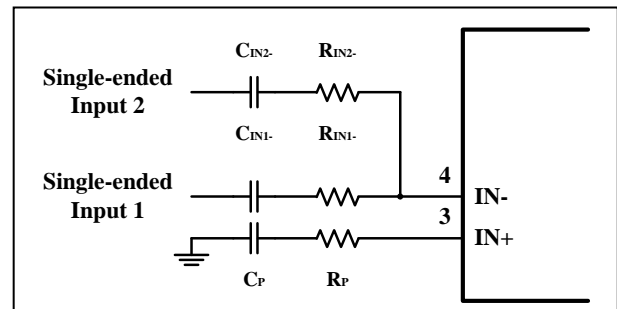

Figure 16 Application Circuit with Summing Two Single-Ended Inputs
The corner frequencies (f_{C1} and f_{C2}) for each input source can be set independently by Equations (9) and (10). Resistor, R_P , and capacitor, C_P , are needed on the $IN+$ terminal to match the impedance on the $IN-$ terminal (Figure 16). The gain for each input source can be set independently by Equations (4) and (5).